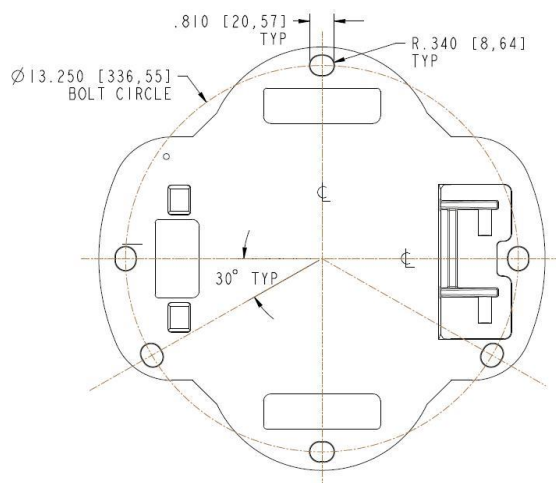

Figure 2
- Figure 2: Base - Bottom view
The Beacon is mounted to the tower pedestal utilizing customer supplied 1/2" hardware. Six mounting holes are provided on the Beacon base (Figure 2). These mounting holes will align with most tower pedestals. The Beacon must be installed level according to the bulls-eye level inside the light engine to maintain light output in accordance with FAA requirements.
Bolt Hold down Pattern	Standard Pattern provided (See Fig. 2)